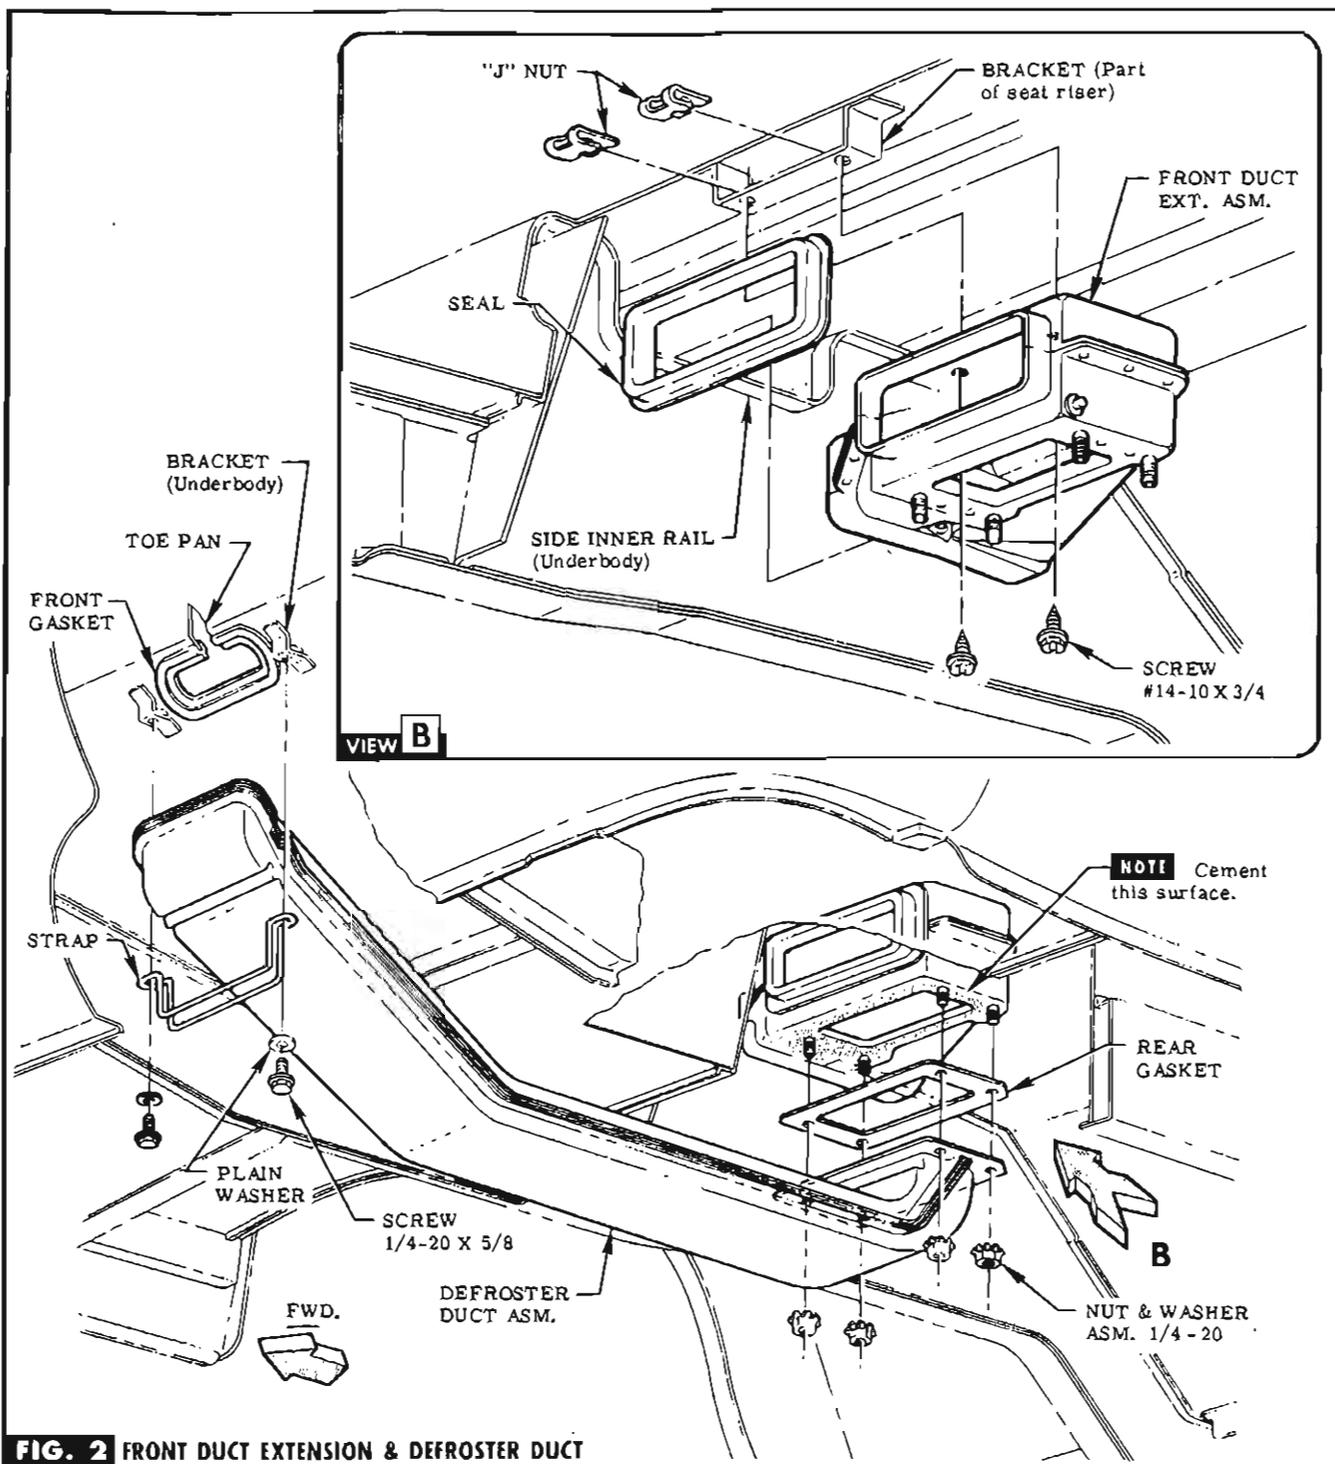

FIG. 2 FRONT DUCT EXTENSION & DEFROSTER DUCT
INSTALL REAR GASKET OVER STUDS. INSTALL FRONT GASKET TO OPENING IN TOE PAN. SEE FIG. 2.
STEP 7 SLIP DEFROSTER DUCT ASM. OVER STUDS & INSTALL NUT & L. WASHER ASSEMBLY (IN BAG B). SEE FIG. 2.
STEP 8 SLIP DEFROSTER DUCT ASM. THRU OPENING IN TOE PAN. SECURE STRAP TO BRACKETS WITH SCREWS & WASHERS PROVIDED (IN BAG B). SEE FIG. 2.